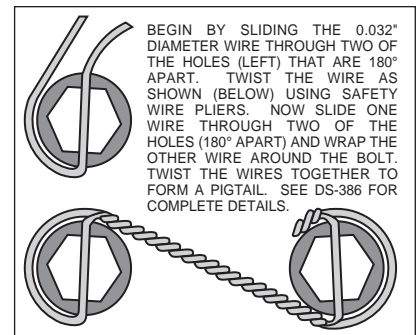
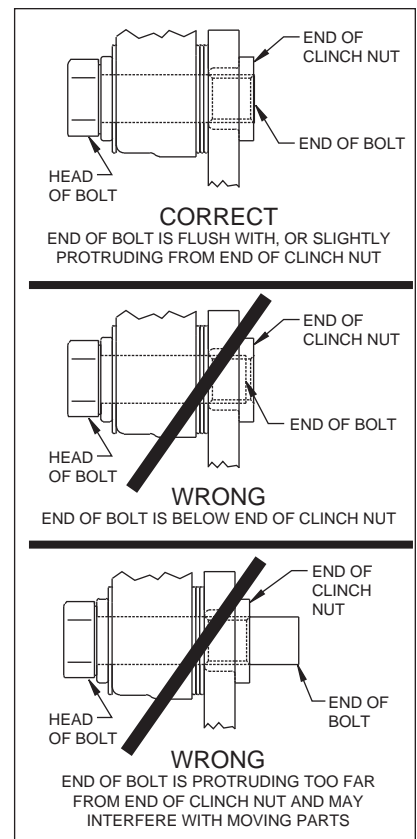

Figure 4. Safety Wire Diagram
Figure 5.
(numbers in parenthesis refer to the part list/diagram on the preceding page): **CAUTION:** All mounting bolts must fully engage insert nuts. Be sure to check that all bolts are either flush or protruding through flanged side of insert nut after shimming, Figure 5.
- With the slot pointing upward and the mounting ears pointing towards the rear of the vehicle, install the caliper mounting bracket (1) to the housing flange using the stock Original Equipment Manufacturer (OEM) bolts and nuts. Stock OEM hex nuts that retain the bracket (1) should be on the wheel side of the bracket. Apply red *Loctite*® 271 to the stock OEM bolt threads and torque to OEM specifications. **NOTE:** Some brackets act as the bearing retainers, while others help locate the bearing in the axle housing flange. If the stock bearing plates are still on the axle, the caliper mounting brackets (1) should be located between the axle housing flange and the bearing retainer plate. Make sure the heads of the caliper mounting bracket insert nuts are FACING OUTWARD TOWARDS THE WHEEL.
- Bolt the hat (2) to the rotor (3) using washers (4) and bolts (5). Torque bolts (5) to 180 in-lb. Safety wire bolts (5) using standard 0.032 inch diameter stainless steel safety wire as shown in Figure 4. Please refer to Wilwood's data sheet DS-386 (available at www.wilwood.com/Pdf/DataSheets/ds386.pdf) for complete safety wire installation instructions.
- Align the correct hole pattern in the hat (2) with the stud pattern on the axle flange. **NOTE:** Some OEM and after market axles come with stud sizes larger than 0.50" diameter. Verify stud size and have a qualified machine shop drill the hats to the correct size. Slide the hat/rotor assembly (2 and 3) over the wheel studs and against the axle flange face.
- NOTE:** Please reference the caution statement at the beginning of the assembly instructions. WITH THE BLEED SCREWS POINTING UP, mount the caliper (6) over the rotor (3) and onto the caliper mounting bracket (1) using washers (7) and mounting bolts (8). View the rotor through the top opening of the caliper. The rotor should be aligned in the center of the caliper. If not, adjust the caliper by using 0.032 inch shim washers (9), placing them between the caliper mounting bracket (1) and the caliper (6). Add as many shim washers (9) as necessary to achieve the correct alignment. **NOTE:** The end of the bolt must be flush with or slightly protruding from the head of the clinch nut. See Figure 5. Place spare shims (9) between washer and caliper mounting ear to achieve the proper mounting fastener configuration. Always use the same amount of shims on both the top and bottom caliper mounting bolts (8). Apply red *Loctite*® 271 to the mounting bolt threads (8), torque bolts to 30 ft-lb. Safety wire the caliper mounting bolts (8).
- Position the Wilwood disc brake pads (10) into the caliper (6) and fasten with cotter pin (11). Steel backing plate side of brake pad should face the caliper pistons.